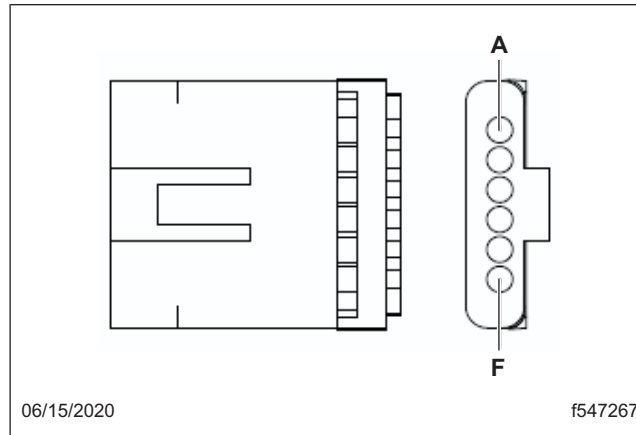

Fig. 17, Splice pack Connector
- 21.3 Extract the two GNDE wires from the splice pack in the new overlay harness and route the harness to the vehicle splice pack GND_PWRTN_ENG_O_SP_GNDE_1A. Insert the two GNDE wires into splice pack, one in cavity A and the other into any open cavity. Install the splice pack lock and cover. See Fig. 7 and Fig. 17.